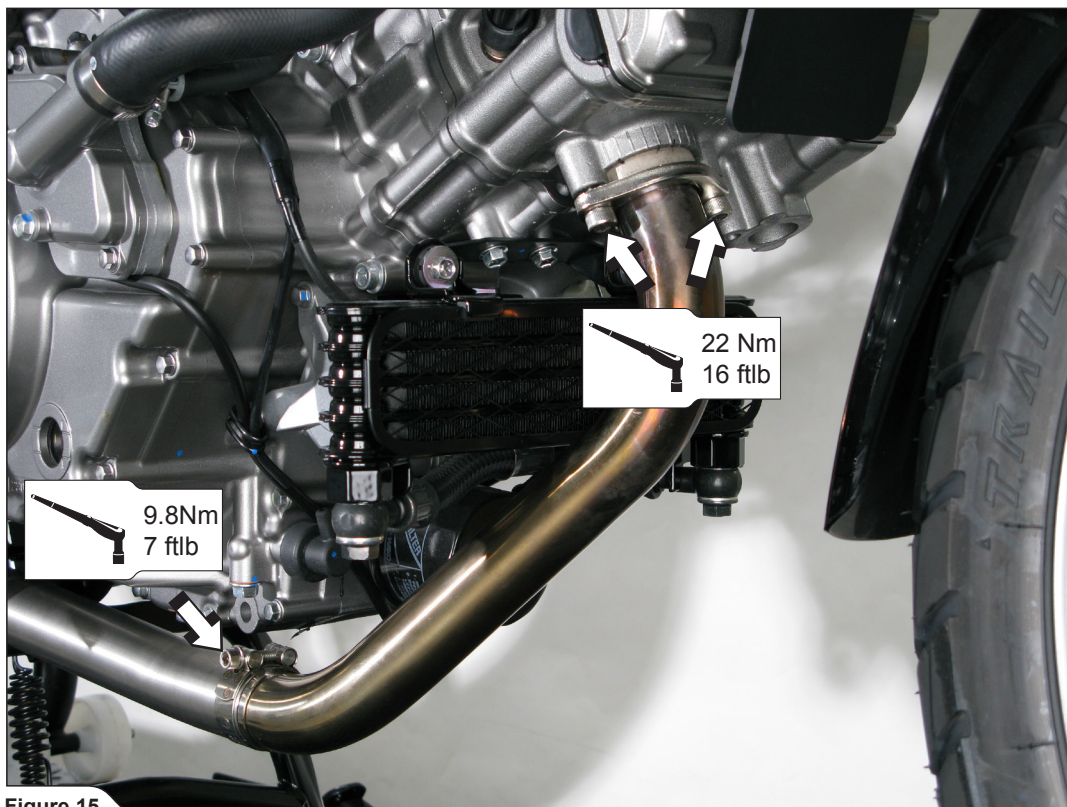

Figure 15
6. Tighten the front header flange and both metal clamps to a specified torques (Figure 15, 16).